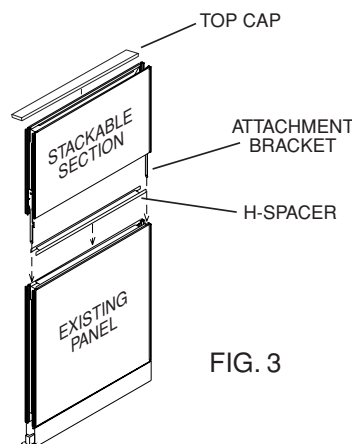

FIG. 3
5. To install the stackable panel section, first remove the plastic top cap from the existing panel. Then place the H-spacer on top of the existing panel as shown (Fig. 3).
6. Hold the stackable panel section over the existing panel so the 1/2" wide leg of each attachment bracket lines up directly over the 1/2" wide groove on the trimrails of the existing panel (Fig. 3).
7. Carefully lower the stackable section down onto the existing panel until it is fully seated on the H-spacer (Fig. 3). There will be about a 1/8" gap the entire width of the panel, and the hook on each bracket will catch the trimrail of the existing panel, when the stackable section is fully seated.
10. Snap the top cap, from the existing panel, onto the stackable section (Fig. 3).